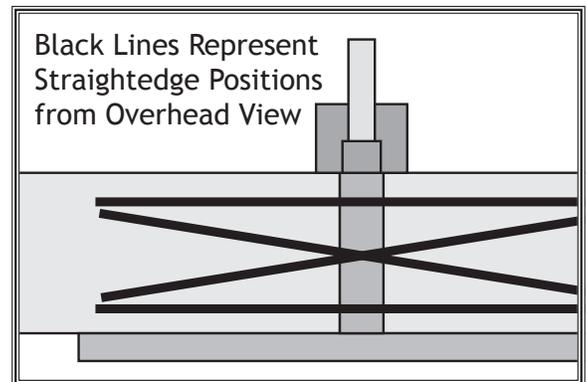

Figure 46. Straightedge positions for checking infeed/outfeed table parallelism.
8. Place straightedge in one of the positions shown in **Figure 46**, and adjust eccentric bushings under infeed table so straightedge lies flat against both tables.